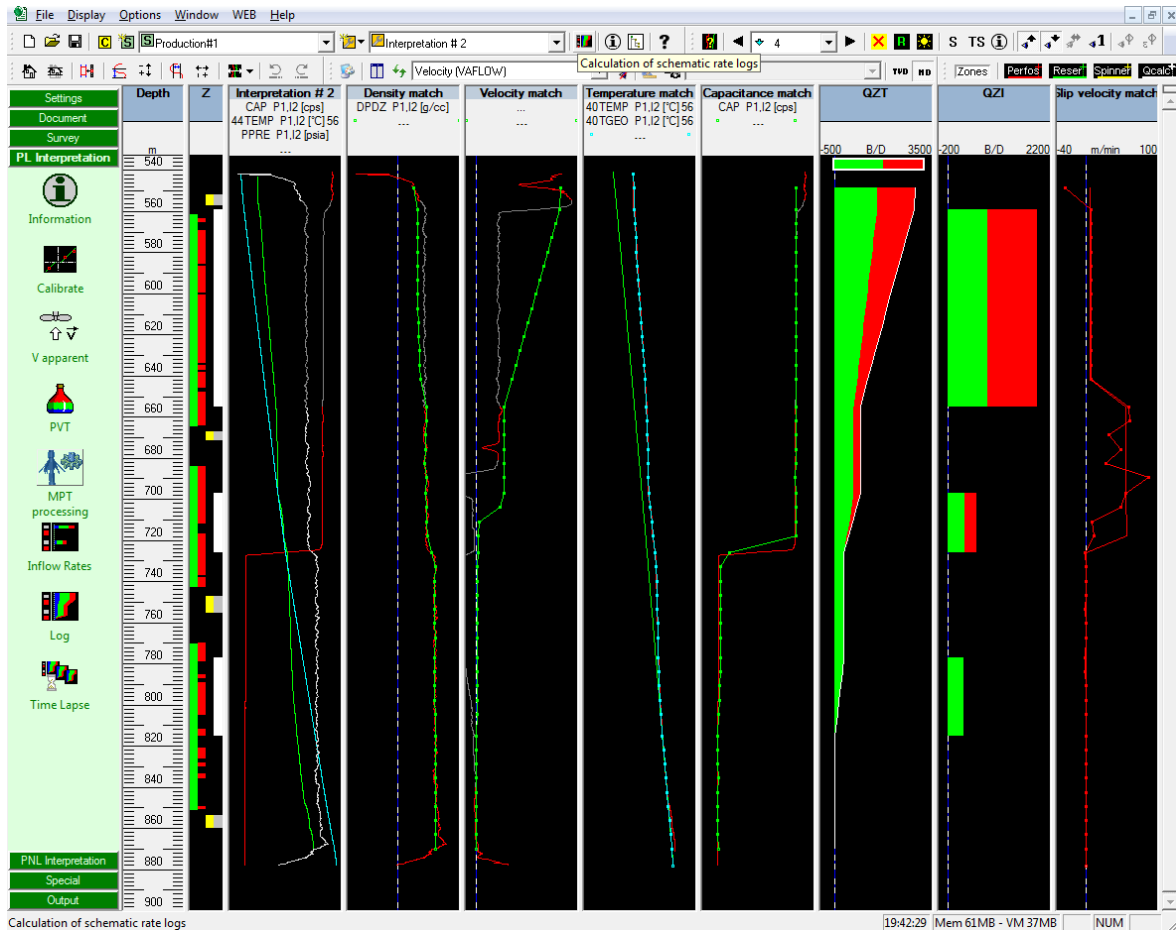

Fig B04.21 • Schematic logs
- Exit 'Zone Rates', Fig B04.21.